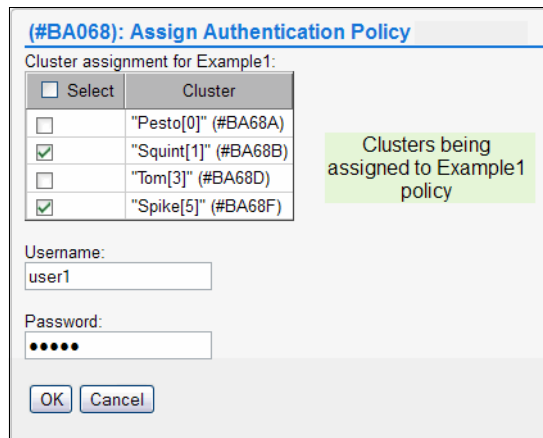

Figure 9-108 Cluster assignment selection
3. Click **Go** to open the Assign Authentication Policy window that is shown in Figure 9-108.